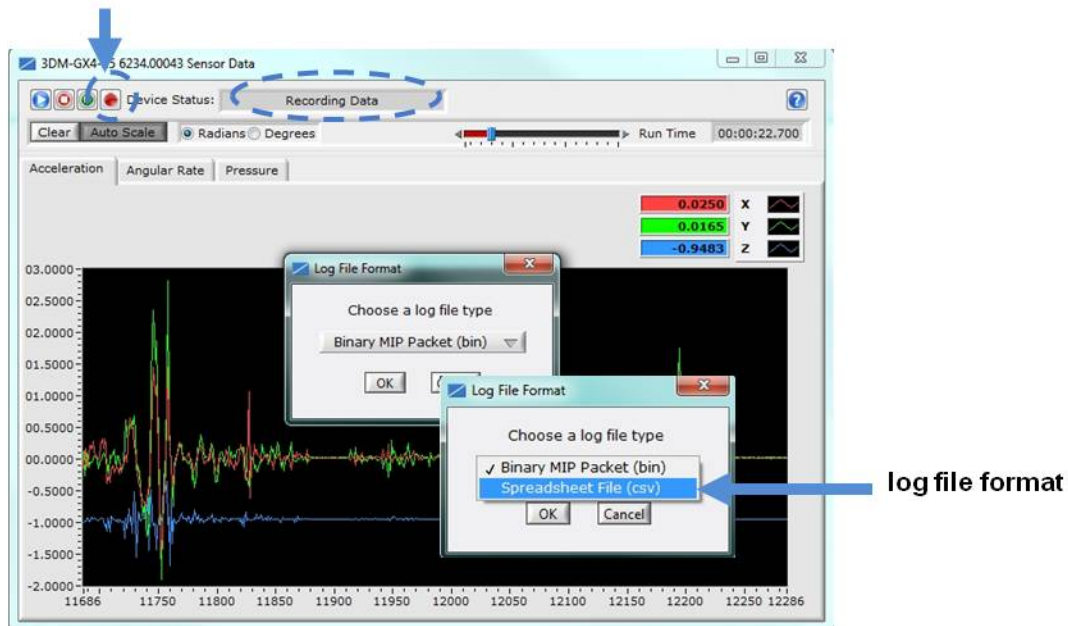

**Figure 12 - Data Streaming**
There are several data monitoring views available depending on what measurements are desired for monitoring and recording. Each view corresponds to one of the main categories in the Device Settings window. For example, the 3DM-GX5-45 includes Sensor Data Monitoring for the IMU/AHRS measurements, GNSS Monitoring for the GNSS metrics, and EF Monitoring for the Estimation Filter outputs (Figure 12 - Data Streaming). During viewing and recording only the outputs that are selected in the Message Format tab of the Device Settings menu are displayed and recorded (see Sensor Settings on page 16).
*Figure 12 - Data Streaming* is an example of Sensor Data Monitoring, which displays the selected IMU/AHRS measurements. In data monitoring windows, no data will be displayed until data streaming is started, and no data will be recorded (even if it is being viewed) until data recording is initiated (armed). In the example below, the y-axis of the graph indicates data points, the x-axis is the measurement units, and there is a tab for each measurement.